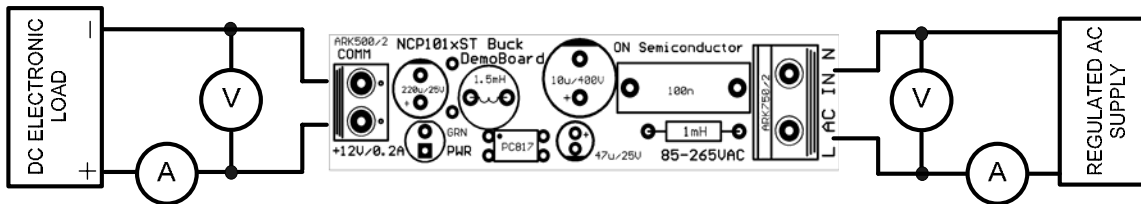

Figure 1: Test Setup
1. **Connect the test setup as shown in Figure 1.**